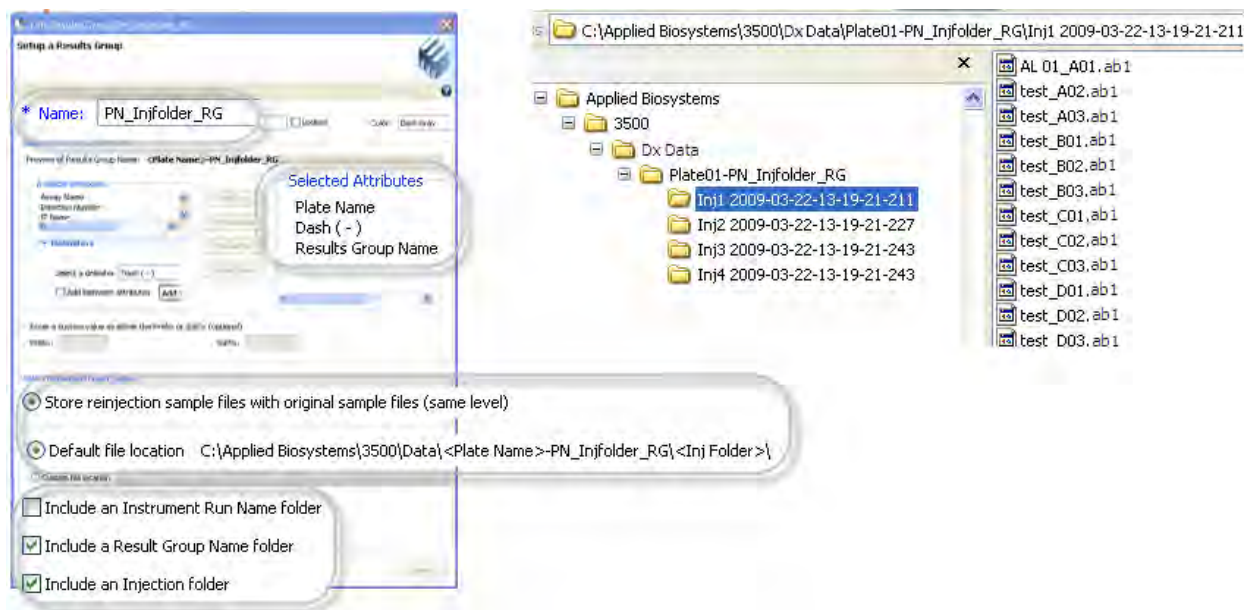

Figure 18 PN\_Injfolder\_RG results group
- Figure 18 shows the factory-provided PN\_Injfolder\_RG results group and the folders created when it is used. This results group creates a folder for each injection.